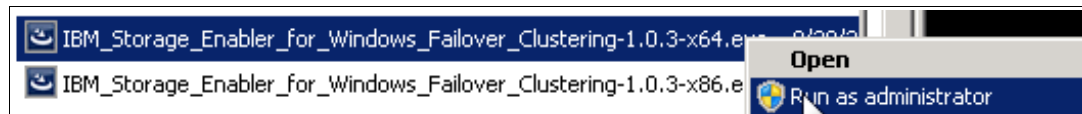

Figure 3-35 Starting the installation
1. Start the installer as administrator (see Figure 3-35).